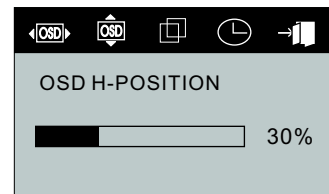
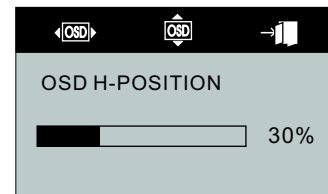

Fig.9 VGA
Fig.10 DVI
4. Position of OSD menu(): When you select the item, you can adjust H-position and V-position of OSD menu and transparency [Fig.9:VGA、 Fig10:DVI].